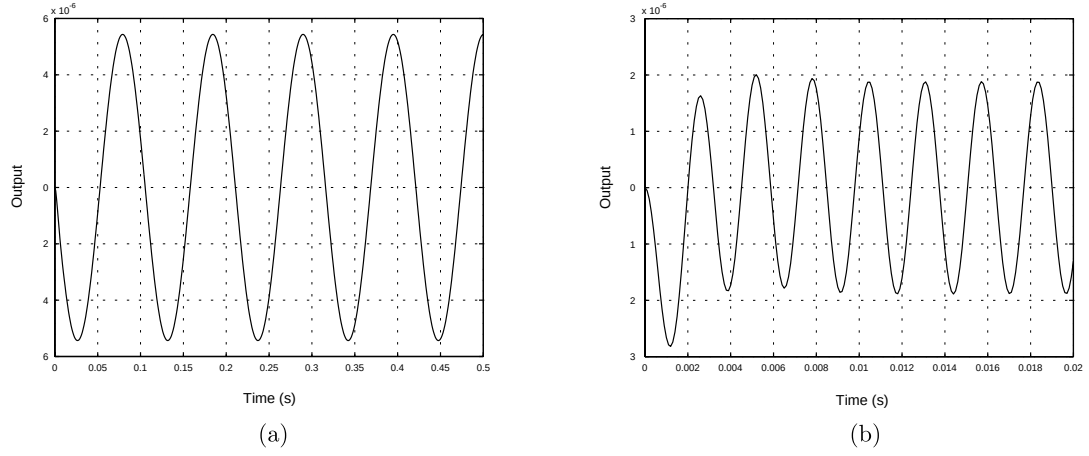

Figure 3: System time response to time inputs. (a) $N(s) = N_o \sin(\pi f_b t)$. (b) $N(s) = N_o \sin(40\pi f_b t)$
- (d) The time response of the system to the given noise inputs are given in Figure 3. For the noise with frequency of $\frac{f_b}{2}$, the gain of the closed loop transfer function is approximately 1 dB, consequently, the noise is amplified by 1 dB. For the noise with frequency of $20f_b$, the gain of